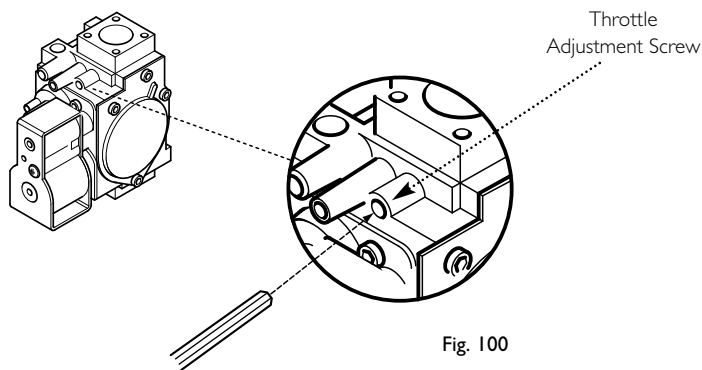

Fig. 100
**NOTE:** To assist the boiler to light prior to final setting, use a suitable hexagon key to wind out the throttle adjustment screw until it is flush with the valve body, then turn the screw 4 full turns clockwise (Fig. 100). If the boiler will not light, or the correct CO2 cannot be achieved contact the 'heateam' technical helpline.